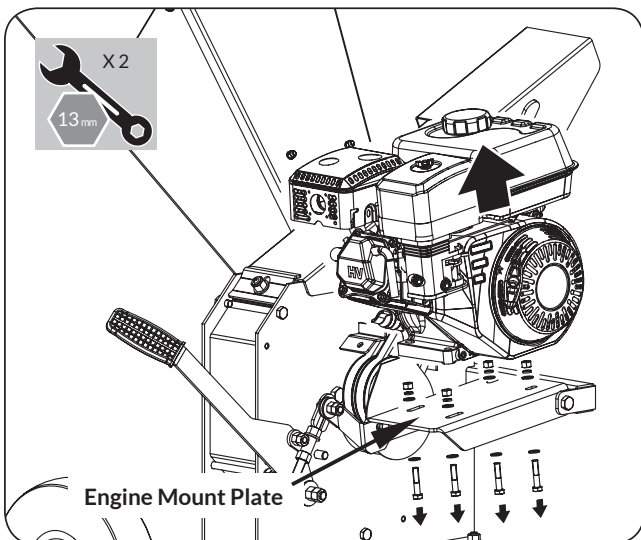

Figure 27
4. Remove the four engine mounting bolts that secure the engine to the engine base and slide the engine downward until the engine pulley is disengaged from the belt. Remove engine from engine plate and place on the side of unit. (See Figure 27)